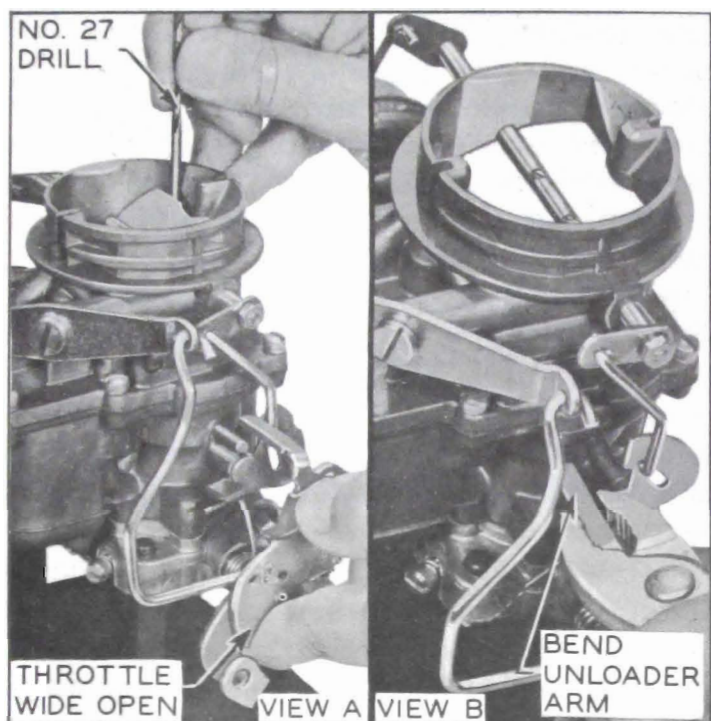

Figure 3-69—Choke Unloader Adjustment
plate. This pulls down on a link and forces the choke valve partially open. See figure 3-69.
8. Hold choke closed with a light pressure. Fully open throttle so that unloader arm on throttle lever kicks choke partially open. Measure clearance between upper edge of choke valve and wall of air horn using a No. 27 drill (.144"). If clearance is not as specified, correct by bending unloader arm on throttle lever. See figure 3-69.